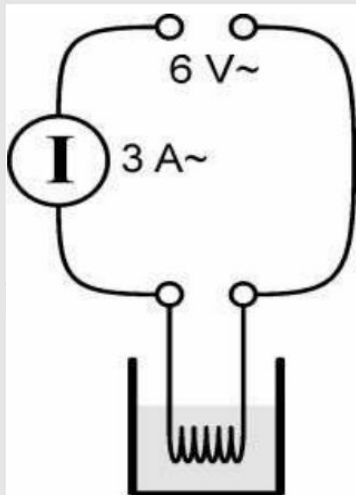

Figure 2
4. Connect the heating coil and the multimeter with the connecting leads to the 6 V~ AC output (power supply unit off!), as shown in Fig. 2. Select the measuring range 3 A~.